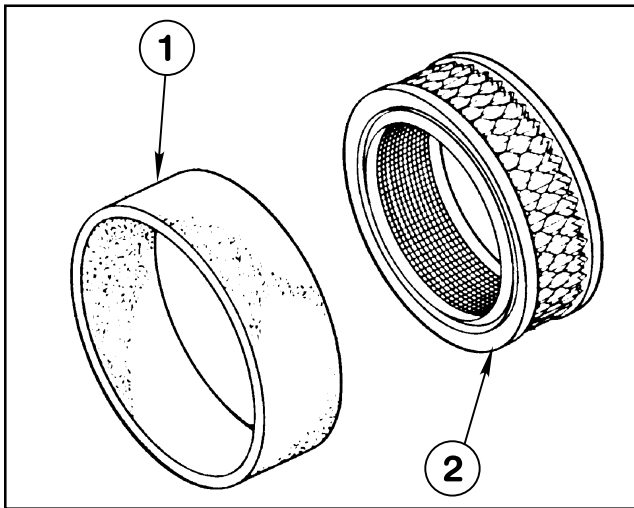

FIG. 9
2. Slide the air cleaner cover off of the air cleaner base (away from the starter hand) and remove the precleaner from the air cleaner element. See FIG. 9.